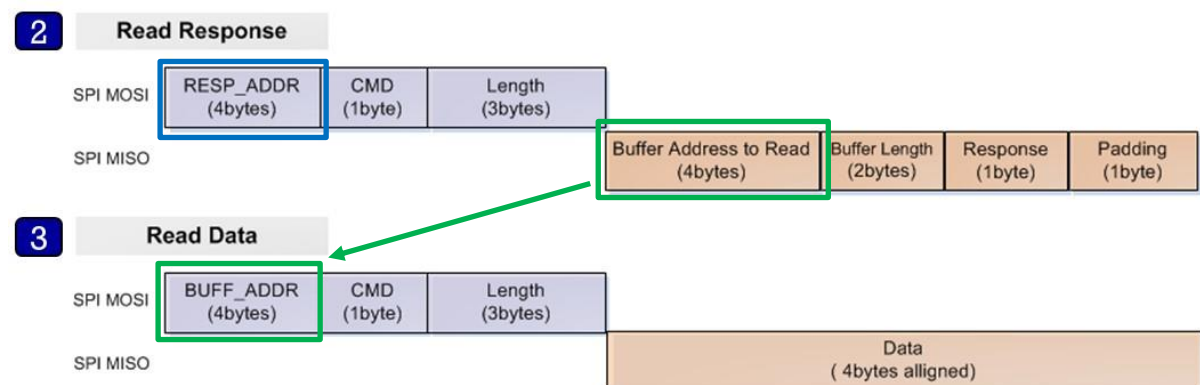

Figure 5: Structure for Read Operation
2. The Host reads the response message from Response Command address (0x50080258, blue rectangle in Figure 5) and parses it uses `struct _st_host_response`. (see Table 4).
3. The Host reads data from address (BUFF_ADDR) which is received from Slave in the response message. (Green rectangle in Figure 5)